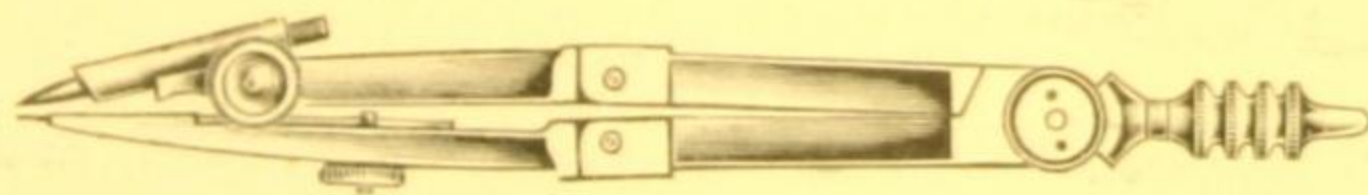

Fig. 177A.
- SM 702.—**3¼-inch Bow Pencil**, first grade ...**ditto**..... Fig. 177A      14 0